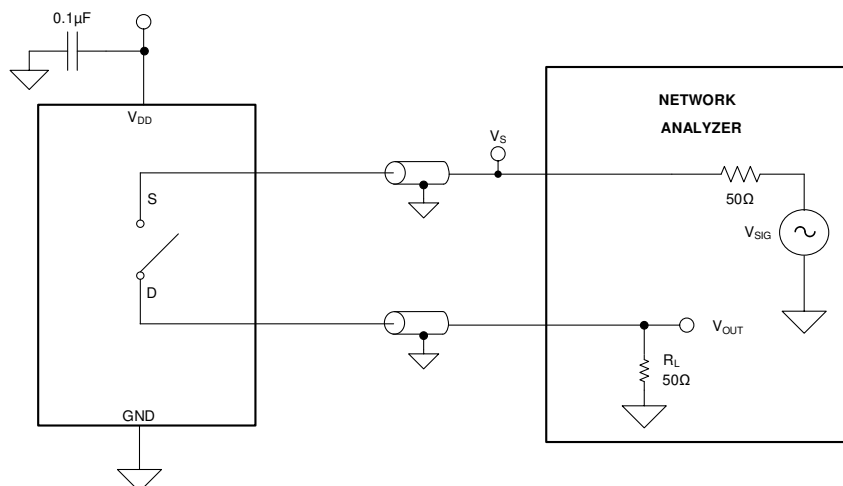

图 7-6. Off Isolation Measurement Setup
Off isolation is defined as the ratio of the signal at the drain pin (D) of the device when a signal is applied to the source pin (S) of an off-channel. The characteristic impedance, Z_0 , for the measurement is $50\ \Omega$. 图 7-6 shows the setup used to measure off isolation. Use off isolation equation to compute off isolation.